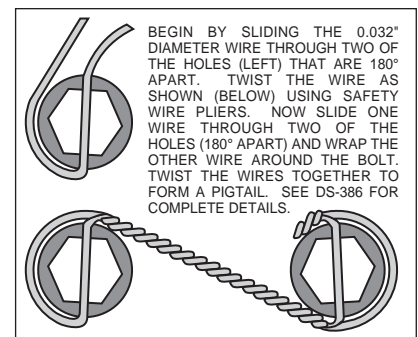

Figure 3. Safety Wire Diagram
- The spindle bracket (1) and the caliper bracket (2) have been assembled at the factory for alignment purposes. Loosen the two bolts that secure the brackets together so that the bolts are hand tight only, this will enable the bracket assembly (1 and 2) to be adjusted to accommodate various spindle tolerances during assembly. Bolt the lower portion of the bracket assembly (1) to the backing plate face of the spindle using two bolts (3) and two lock nuts (4), hand tighten only. Install bolt (6) through caliper bracket (2), placing the spacer (5) between the bracket and the steering arm. Torque two bolts (3) to 47 ft-lb. Apply red *Loctite*® 271 to the bolt threads (6) and torque to 120 ft-lb. Remove one of the bolts that secure the bracket assembly (1 and 2) to each other. Apply red *Loctite*® 271 to the bolt threads and reinsert into the bracket assembly. Repeat this procedure for the second bolt. Torque these two bolts to 30 ft-lb. **NOTE:** Be sure the heads of the bracket assembly (1 and 2) insert nuts are facing outward toward the wheel.
- Install five new wheel studs (7) into the hub (8). Torque to 77 ft-lb. **NOTE:** There are two five lug patterns in the hub (5 x 4.50 and 5 x 4.75). Make sure of the correct hole pattern for the correct wheel application before installing studs into hub.
- Pack the large inner bearing cone (9) with high temperature disc brake bearing grease (available from your local auto parts store) and install into the backside of the hub (8).
- Install the grease seal (10) by pressing into the backside of the hub (8).
- Attach rotor adapter (11) to rotor (12) using eight bolts (13). Using an alternating sequence, apply red *Loctite*® 271 to the threads and torque bolts (14) to 25 ft-lb. For an added measure of security, the bolts may be safety wired using standard 0.032 inch diameter stainless steel safety wire as shown in Figure 3. Please refer to Wilwood's data sheet DS-386 (available at www.wilwood.com/Pdf/DataSheets/ds386.pdf) for complete safety wire installation instructions. **NOTE:** The flat side of the rotor (12) lugs faces toward the rotor adapter (11) with the dished side of the rotor adapter (11) facing away from the rotor (12).